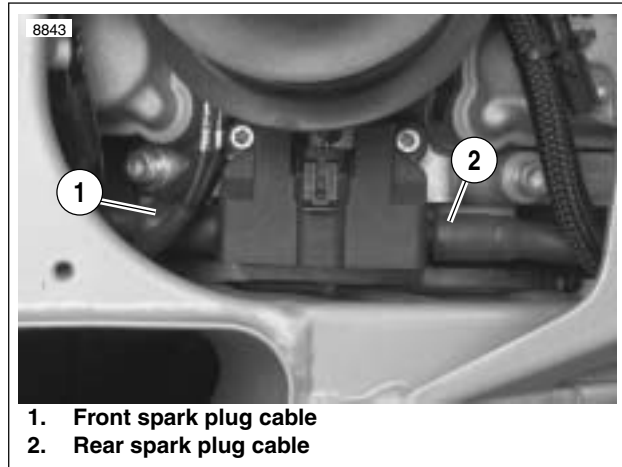

Figure 7-8. Spark Plug Cable Location
3. See Figure 7-8. Disconnect spark plug cables from ignition coil and spark plug terminals. Inspect cables for damage.